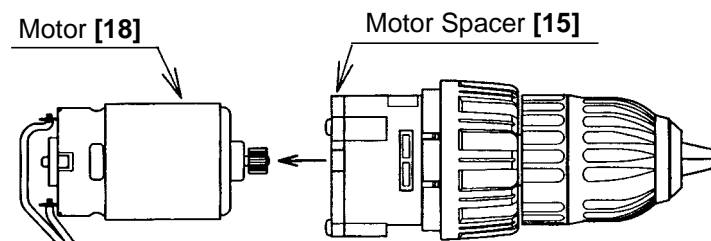

Fig. 1
(2) Pull the Motor **[18]** from the Motor Spacer **[15]** and remove it from the Gear Box Ass'y **[17]**. (See Fig. 1.)